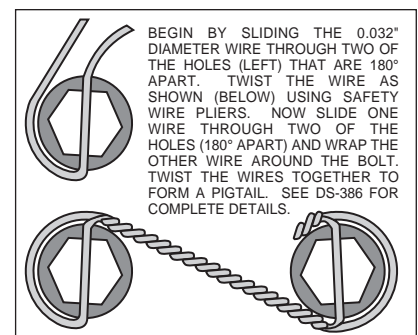

Figure 4. Safety Wire Diagram
- Pack the large inner bearing cone (5) with high temperature disc brake bearing grease (available from your local auto parts store) and install into the backside of the hub (4).
- Install the grease seal (6) by pressing into the backside of the hub (4).
- Pack the small outer bearing cone (12) with high temperature disc brake bearing grease and install into front side of the hub (4). Slide the hub assembly (4, 5, 6 and 12) onto the spindle. Secure using spindle washer (13), stock adjusting nut, and nut locking device. Adjust wheel bearing pre-load per Original Equipment Manufacturer (OEM) specifications.
- Install the O-ring (14) and the dust cap (15) into the hub (4). **NOTE:** O-ring (14) friction will not allow cap (15) to unscrew on its own.
- With the larger I.D. side of the rotor (7) facing away from the hat (8), bolt rotor (7) to hat (8) through the backside of the rotor using washers (9) and bolts (10). Using an alternating sequence, apply red *Loctite*® 271 to the threads and torque bolts to 155 **in-lb**. For an added measure of security, the bolts may be safety wired using standard 0.032 inch diameter stainless steel safety wire as shown in Figure 4.. Please refer to Wilwood's data sheet DS-386 for complete safety wire